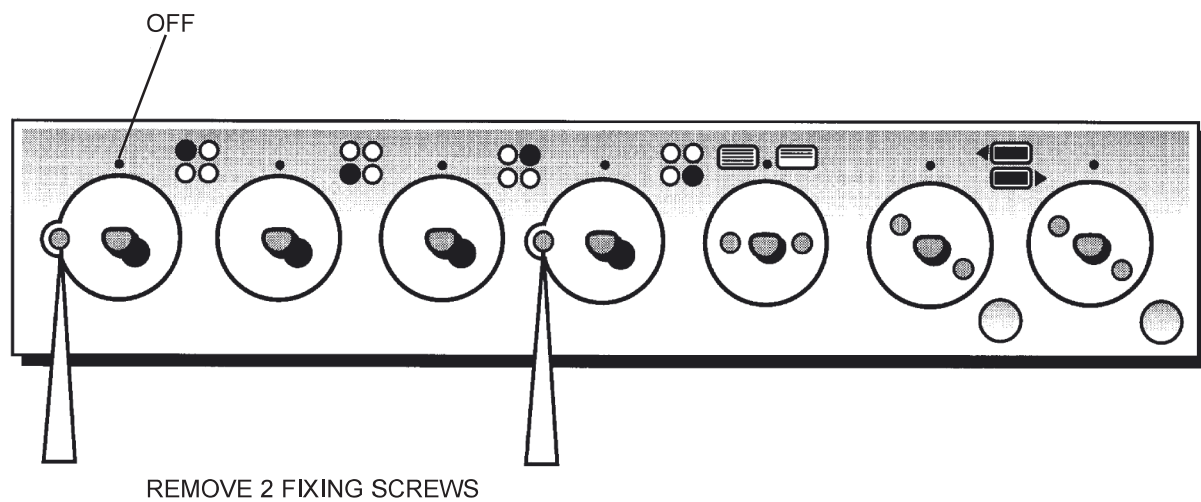

Fig 3
- c) Remove left hand and centre shrouds from the control panel to gain access to the fixing screws. Remove two screws from control panel (one from left hand hole and one from centre hole). (See Fig. 3).
- c) Remove left hand and centre shroud from the control panel to gain access to the fixing screws. Remove two screws from control panel (one from left hand hole and one from centre hole). (See Fig. 3).
Remove two screws from control panel (one from left hand hole and one from centre hole) (See Fig. 3).